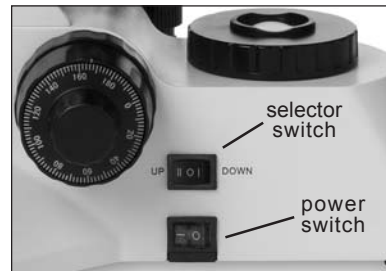

Figure 15
1. Set the main power switch to the ON position (“|”) and the illuminator selector switch to the UP position (“|”) (figure 15).